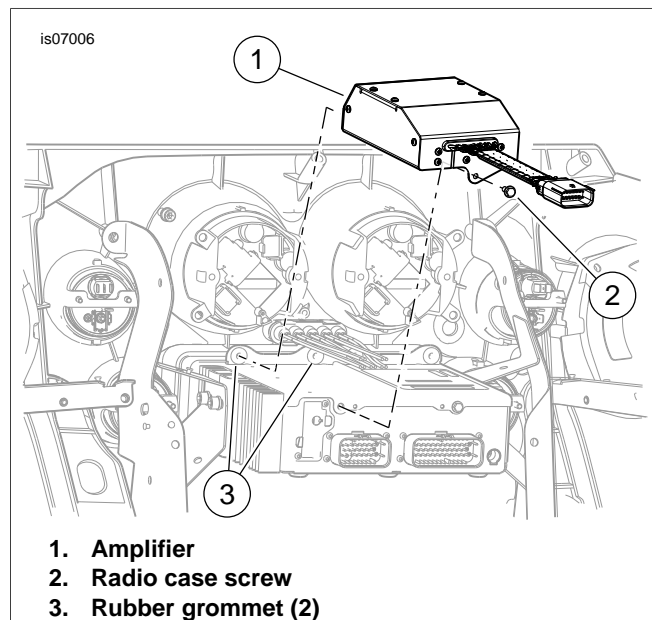

Figure 1. Front Amplifier Installation
1. See Figure 1. Remove the screw (2) at the back of the radio.
2. Position the amplifier (1) on top of the AM-FM radio case, with the metal cones on one end fitting firmly into the left-most (brake-lever side) rubber grommets (3) at the front of the radio.
3. Fasten the amplifier to the radio with the radio case screw (2). Tighten to 35-45 **in-lbs** (4.0-5.1 Nm).